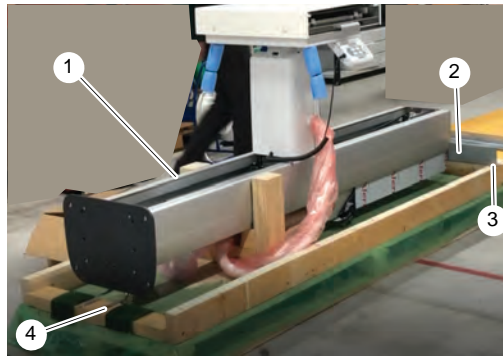

Fig. 4-40 Remove packaging
9. Remove the mounting band (4) (see Fig. 4-40 *Remove packaging*), at the foot end (5).
10. Remove the mounting beam (2).